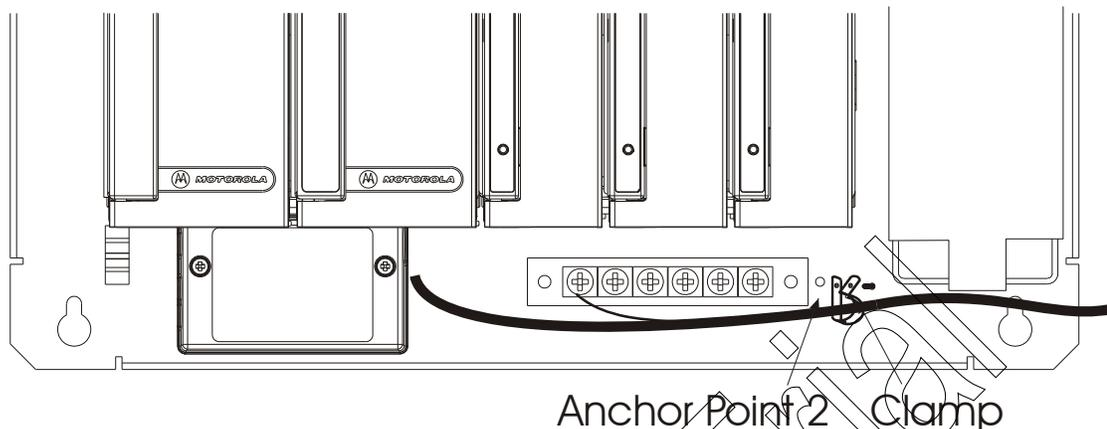

Figure 2-19 RTU on Metal Chassis – Cable Anchor Point 2
Anchor point 2 for all other units without housing (other than No I/O Slots) is near the unit's ground strip. (See Figure 2-19 below.)
- 2) If user-supplied cables are used, connect the ground wire(s) to the PGND pin(s) on the I/O module and to the grounding strip at the bottom of the RTU. (See grounding strip in Figure 2-19 above.)
- 3) If the wired cable braid is used, identify the ground wire(s) based on the pin number printed on the wire label. Connect the ground wire(s) from the cable braid to the PGND pin(s) on the I/O module and to the grounding strip at the bottom of the RTU. (See grounding strip in Figure 2-19 above.)